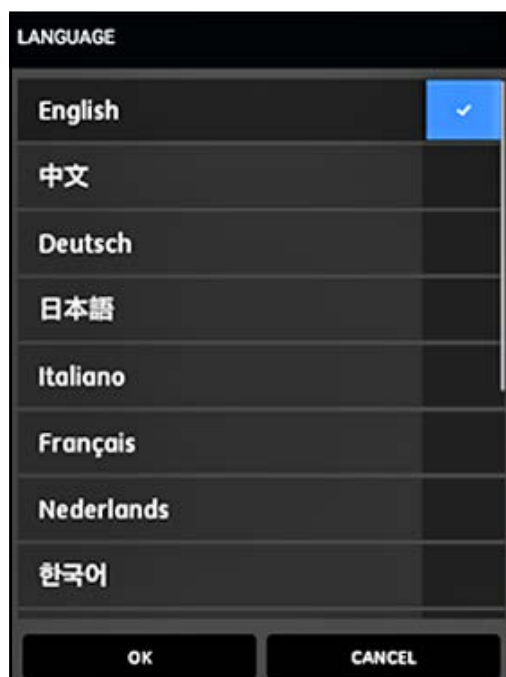

Figure 60: PT900 APP Language Options
- At the screen shown in *Figure 60* below, select the desired language for the APP and click OK.